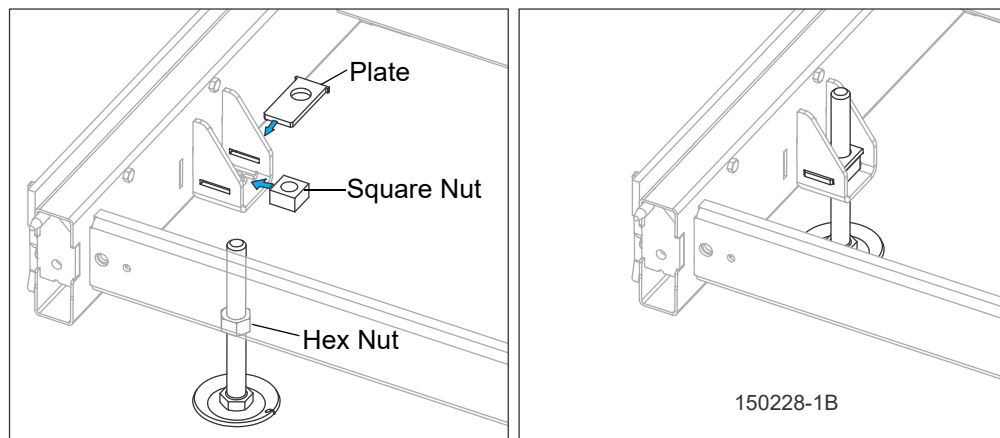

FIG. 3-2
4. Thread each leg through the bracket, the square nut, and the plate. (See FIG. 3-2.)
See Figure 3-2.